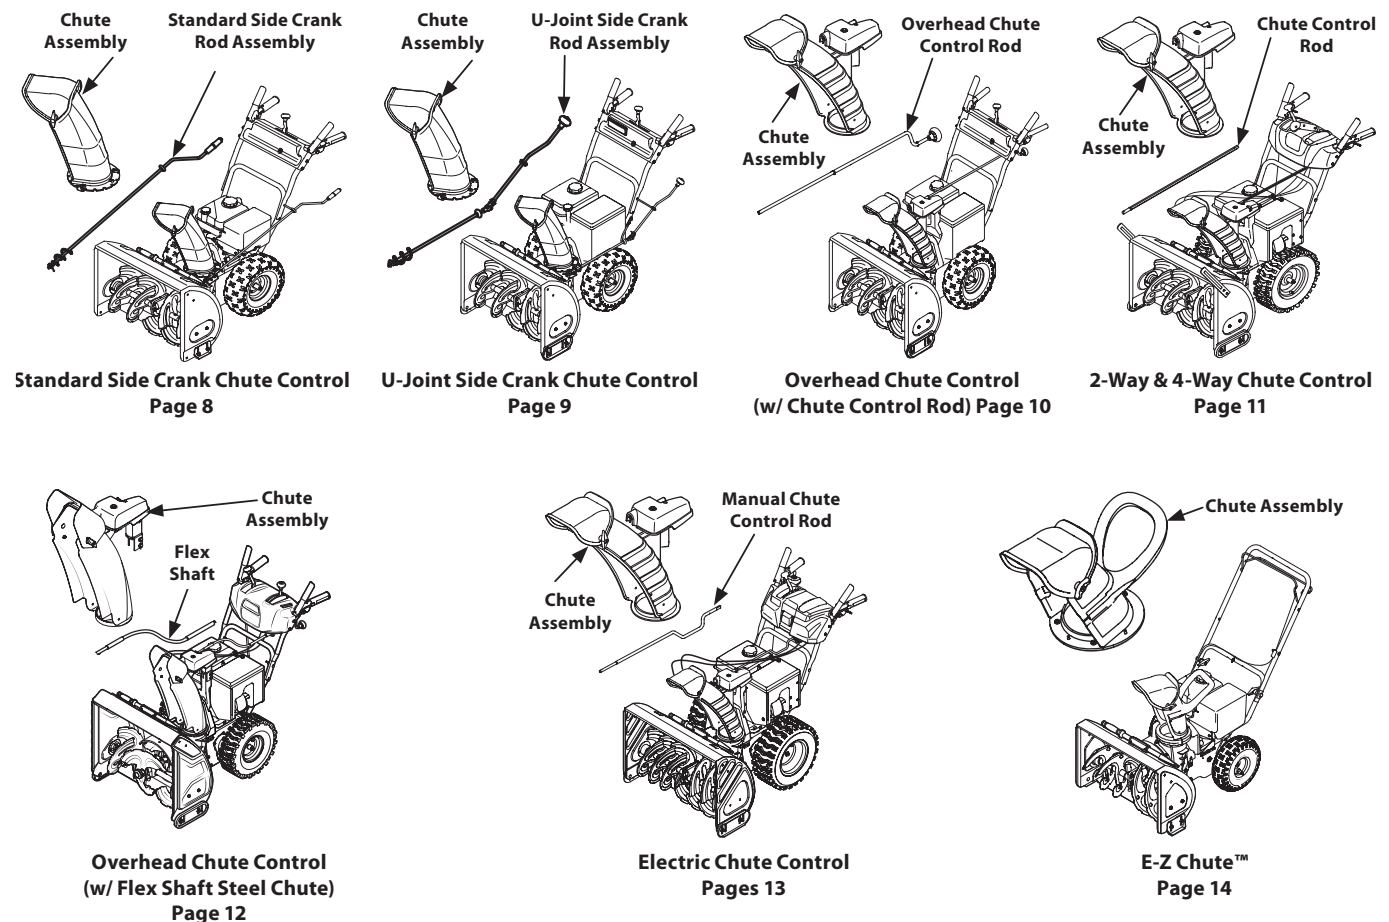

Figure 2-1
**NOTE:** This Operator's Manual covers several models. Features may vary by model. Not all features in this manual are applicable to all models and the model depicted may differ from yours. Refer to Figure 2-1 which shows the different versions and match the contents of carton (chute and directional control rod/flex shaft) to identify your specific unit.
Refer to Figure 2-1 and proceed to your applicable chute style.
**NOTE:** On units with Overhead Chute Control (with Flex Shaft), Four-Way Chute Control, and Electric Chute Control cut cable ties securing flex shaft to the lower handle and set the flex shaft aside. Remove rubber bands securing cables to carriage screws and cut cable tie securing shift rod to lower handle. Refer to Figure 2-1 to help identify your unit.
Refer to Figure 2-1 to identify your applicable chute style and continue to Chute Assembly Options (page 7).
Refer to Figure 2-1 and proceed to your applicable Chute Control Style on pages 8-14.